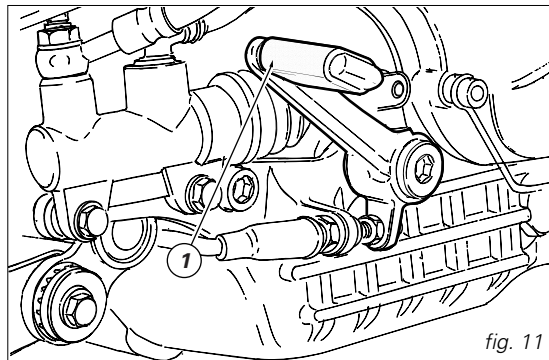

fig. 11
**Rear brake pedal** (fig. 11)